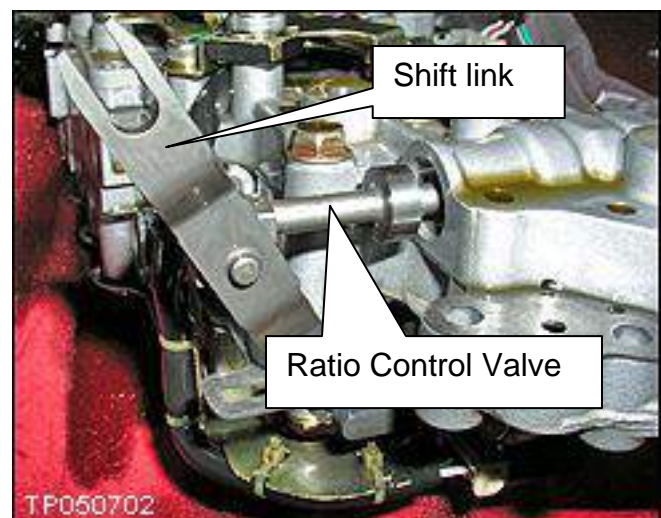

Figure 10
15. Carefully unpack the new valve body assembly. When installing the new valve body, be careful not to allow the Ratio Control Valve to fall out (see Figure 10).